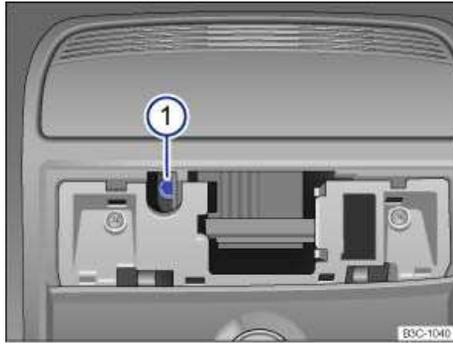

Fig. 181 Hexagonal head screw for closing the power sunroof.
2. Insert a commercially available 1/6 in (4 mm) Allen wrench⁵ into the hexagonal head screw ⇒ fig. 181 \(1\).